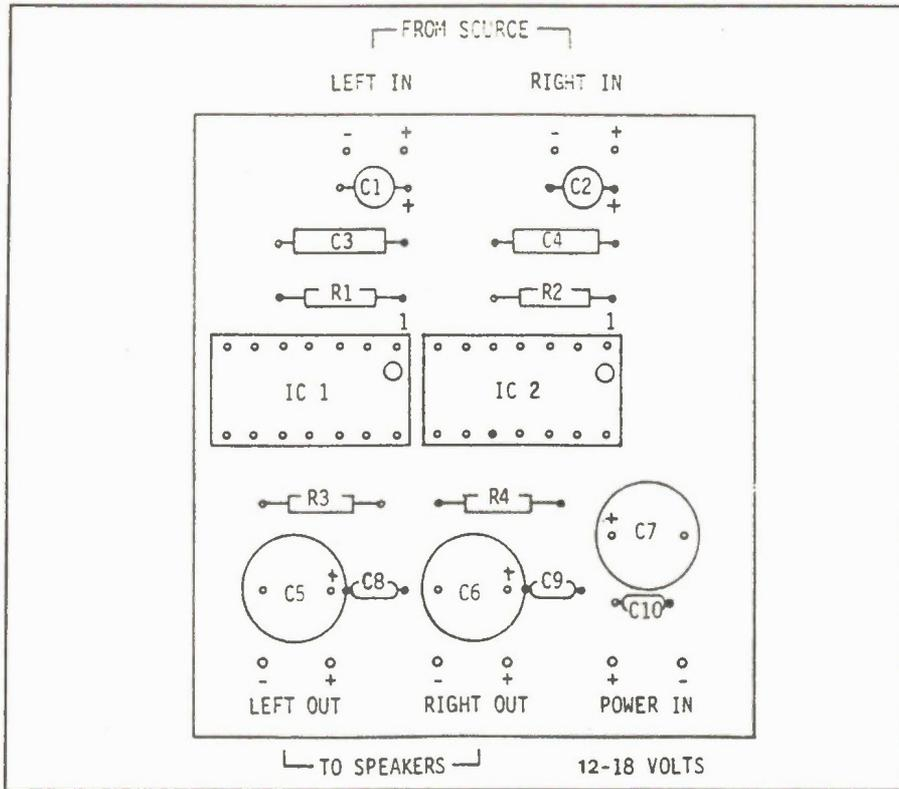

Fig. 2. The parts location for the printed circuit board.
- 1) Refer to Figure 2 printed Circuit Board Overlay